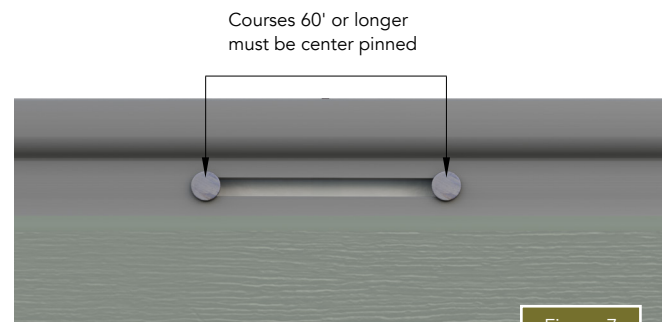

Figure 7
- Courses of siding measuring 60' or longer must be pinned at the center of the course. Pin the course by placing fasteners at both edges of a single nailing slot leaving $\frac{1}{32}$ " gap to ensure that the course will expand and contract in both directions (Figure 7).